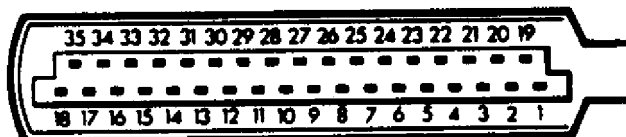
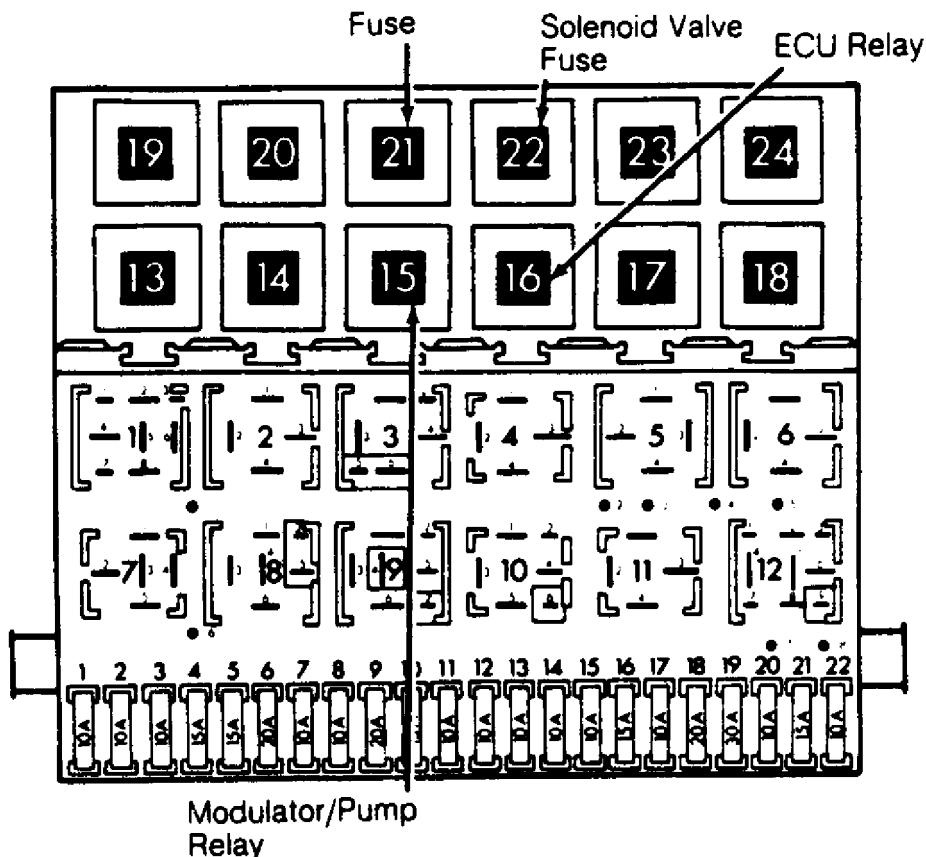
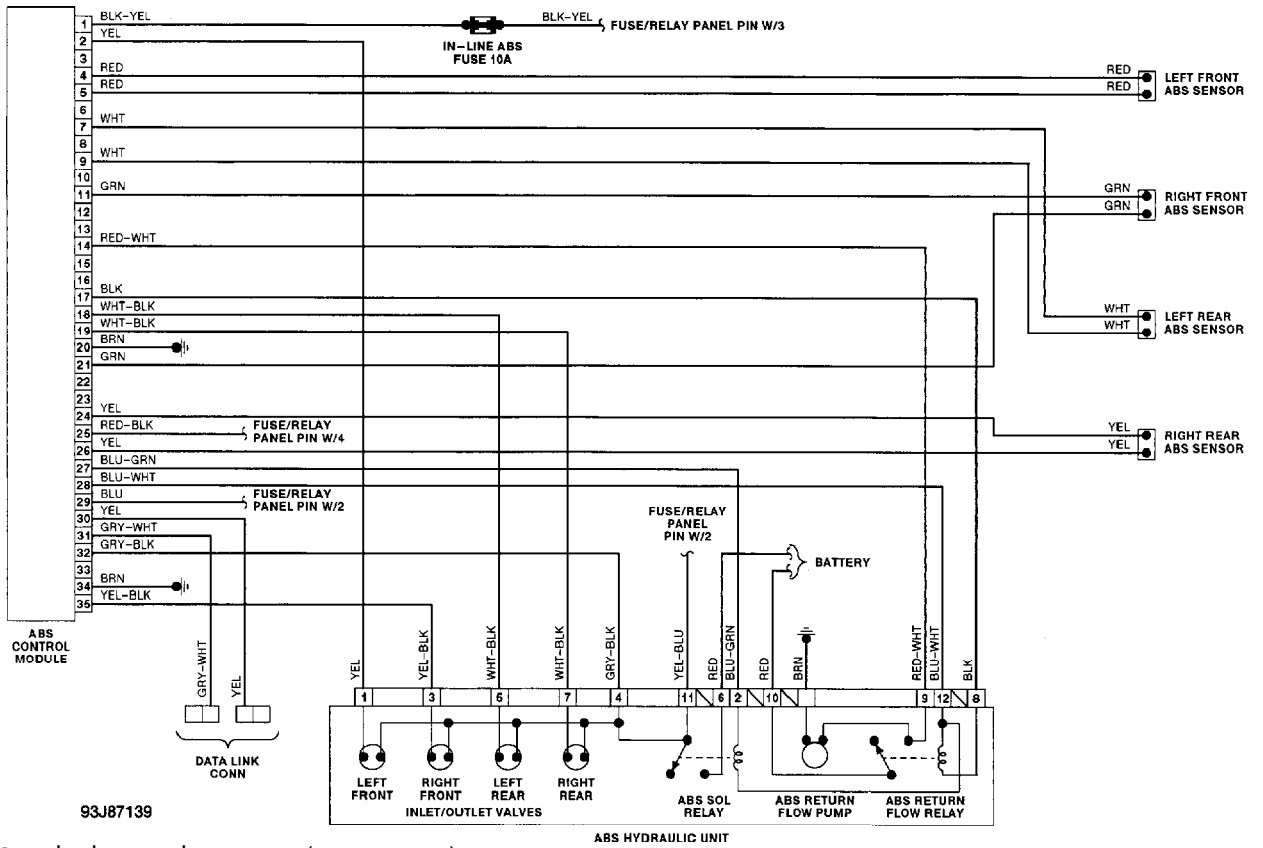

Fig. 2: Identifying ECU Connector Terminals
Fig. 3: Locating Relays
Fig. 4: ABS Wiring Diagram (EuroVan)
Turn ignition off. Unplug ECU connector. Turn ignition on. Using a voltmeter, check voltage between ECU connector terminals No. 1 and 2. See Fig. 2. If voltage is 10 volts or more, go to next test. If voltage is less than 10 volts, check battery, ground, ABS fuse, relay and wiring. Repair as necessary.
Connect a jumper wire between ECU connector terminals No. 2 and 8. See Fig. 2. Turn ignition on. Using a voltmeter, check voltage between ECU connector terminals No. 1 and 3. If voltage is 10 volts or more, go to next test. If voltage is less than 10 volts, check ABS
1) Turn ignition off. Unplug hydraulic modulator/pump connector. Depress brake pedal 25 times. Turn ignition on. Using a voltmeter, measure voltage between ECU connector terminals No. 1 and 32. See Fig. 2. If voltage is 10 volts or more, go to RIGHT REAR WHEEL SPEED SENSOR VOLTAGE TEST under SYSTEM TESTING.
2) If voltage is less than 10 volts, check hydraulic modulator/pump fuse. If fuse is okay, check wiring between ECU connector terminal No. 32 and hydraulic modulator/pump connector terminal No. 1 (large gauge Red/Black wire). See Figs. 2 and 4. If wiring is not okay, repair wiring, and retest. If wiring is okay, replace relay, and retest.
Connect an AC voltmeter between ECU connector terminals No. 4 and 22. See Fig. 2. Rotate right rear wheel at one revolution per second. Measure voltage with wheel rotating. If voltage is 0.075 volt or more, go to next test. If voltage is less than 0.075 volt, check wheel speed sensor and/or toothed ring for damage, wear and proper installation. If damage or wear is found, replace faulty component and retest. If components are not properly installed, reposition and retest. If components are okay, replace wheel speed sensor and retest.
Connect an AC voltmeter between ECU connector terminals No. 6 and 24. See Fig. 2. Rotate left rear wheel at one revolution per second. Measure voltage with wheel rotating. If voltage is 0.075 volt or more, go to next test. If voltage is less than 0.075 volt, check wheel speed sensor and/or toothed ring for damage, wear and proper installation. If damage or wear is found, replace faulty component and retest. If components are not properly installed, reposition and retest. If components are okay, replace wheel speed sensor and retest.
Connect an AC voltmeter between ECU connector terminals No. 7 and 25. See Fig. 2. Rotate right front wheel at one revolution per second. Measure voltage with wheel rotating. If voltage is 0.075 volt or more, go to next test. If voltage is less than 0.075 volt, check wheel speed sensor and/or toothed ring for damage, wear and improper installation. If damage or wear is found, replace faulty component, and retest. If components are improperly installed, reposition component, and retest. If components are okay, replace wheel speed
Connect an AC voltmeter between ECU connector terminals No. 5 and 23. See Fig. 2. Rotate left front wheel at one revolution per second. Measure voltage with wheel rotating. If voltage is 0.075 volt or more, go to next test. If voltage is less than 0.075 volt, check wheel speed sensor and/or toothed ring for damage, wear and proper installation. If damage or wear is found, replace faulty component and retest. If components are not properly installed, reposition and retest. If components are okay, replace wheel speed sensor and retest.
Turn ignition off. Using an ohmmeter, check for continuity between ECU connector terminals No. 1 and 3, and between terminals No. 1 and 20. See Fig. 2. If there is continuity at both test points, go to next test. If there is no continuity at either or both test points, check wiring. If wiring is faulty, repair and retest. If wiring is okay, replace relay and retest.
1) Turn ignition off. Remove jumper wire from previous test. Using an ohmmeter, check for continuity between ECU connector terminals No. 1 and 11. See Fig. 2. If there is continuity, go to step 3).
3) Reconnect jumper wire between ECU connector terminals No. 1 and 11. Check for continuity between ECU connector terminal No. 11 and valve block connector terminal No. 1 (Brown wire). See Figs. 2 and 4. If there is no continuity, repair wiring and retest.
connector terminals No. 9 and 10. See Fig. 2. If there is continuity, switch is okay. If continuity does not exist, check wiring. If wiring is okay, replace switch, and retest.
Turn ignition off. Using an ohmmeter, measure resistance between ECU connector terminals No. 4 and 22. See Fig. 2. If resistance is 800-1400 ohms, go to next test. If resistance is not as specified, check resistance at right rear wheel speed sensor. If resistance is correct, repair wiring and retest. If resistance is not correct, replace wheel speed sensor and retest.
Using an ohmmeter, measure resistance between ECU connector terminals No. 6 and 24. See Fig. 2. If resistance is 800-1400 ohms, go to next test. If resistance is not as specified, check resistance at left rear wheel speed sensor. If resistance is correct, repair wiring and retest. If resistance is not correct, replace wheel speed sensor, and retest.
Using an ohmmeter, measure resistance between ECU connector terminals No. 7 and 25. See Fig. 2. If resistance is 800-1400 ohms, go to next test. If resistance is not as specified, check resistance at right front wheel speed sensor. If resistance is correct, repair wiring and retest. If resistance is not correct, replace wheel speed sensor and retest.
Using an ohmmeter, measure resistance between ECU connector terminals No. 5 and 23. See Fig. 2. If resistance is 800-1400 ohms, go to next test. If resistance is not as specified, check resistance at left front wheel speed sensor. If resistance is correct, repair wiring, and retest. If resistance is not correct, replace wheel speed sensor, and retest.
Using an ohmmeter, measure resistance between ECU connector terminals No. 1 and 4. See Fig. 2. If resistance is 20,000 ohms or more, go to next test. If resistance is less than 20,000 ohms, check shielding wire for damage. Replace harness if damage is found and retest.
Using an ohmmeter, measure resistance between ECU connector terminals No. 1 and 6. See Fig. 2. If resistance is 20,000 ohms or more, go to next test. If resistance is less than 20,000 ohms, check shielding wire for damage. Replace harness if damage is found and retest.
terminals No. 1 and 7. See Fig. 2. If resistance is 20,000 ohms or more, go to next test. If resistance is less than 20,000 ohms, check shielding wire for damage. Replace harness if damaged, and retest.
Using an ohmmeter, measure resistance between ECU connector terminals No. 1 and 5. See Fig. 2. If resistance is 20,000 ohms or more, go to next test. If resistance is less than 20,000 ohms, check shielding wire for damage. Replace harness if damaged, and retest.
Using an ohmmeter, measure resistance between ECU connector terminals No. 1 and 8. See Fig. 2. If resistance is 50-100 ohms, go to next test. If resistance is not as specified, check wiring. If wiring is faulty, repair and retest. If wiring is okay, replace relay and retest. See Fig. 3.
Using an ohmmeter, measure resistance between ECU connector terminals No. 11 and 17. See Fig. 2. If resistance is 5-7 ohms, go to next test. If resistance is not 5-7 ohms, measure between hydraulic modulator block terminals No. 1 (Brown wire) and No. 5 (Gray wire). See Fig. 4. If resistance is 5-7 ohms, check wiring between hydraulic modulator and ECU for open circuit. If resistance is not 5-7 ohms, replace hydraulic modulator.
Using an ohmmeter, measure resistance between ECU connector terminals No. 11 and 15. See Fig. 2. If resistance is 5-7 ohms, go to next test. If resistance is not 5-7 ohms, measure between hydraulic modulator terminals No. 1 (Brown wire) and No. 2 (Yellow wire). See Fig. 4. If resistance is 5-7 ohms, check wiring between hydraulic modulator and ECU for open circuit. If resistance is not 5-7 ohms, replace hydraulic modulator.
Using an ohmmeter, measure resistance between ECU connector terminals No. 11 and 35. See Fig. 2. If resistance is 5-7 ohms, go to next test. If resistance is not 5-7 ohms, measure between hydraulic modulator terminals No. 1 (Brown wire) and No. 7 (Blue or Black/Green wire). See Fig. 4. If resistance is 5-7 ohms, check wiring between valve block and ECU for open circuit. If resistance is not 5-7 ohms, replace hydraulic modulator.
Using an ohmmeter, measure resistance between ECU connector terminals No. 11 and 33. See Fig. 2. If resistance is 3-5 ohms, go to next test. If resistance is not 3-5 ohms, measure between valve block terminals No. 1 (Brown wire) and No. 4 (White wire). See Fig. 4. If resistance is 3-5 ohms, check wiring between hydraulic modulator and ECU for open circuit. If resistance is not 3-5 ohms, replace hydraulic modulator.
Using an ohmmeter, measure resistance between ECU connector terminals No. 11 and 34. See Fig. 2. If resistance is 3-5 ohms, go to next test. If resistance is not 3-5 ohms, measure between hydraulic modulator terminals No. 1 (Brown wire) and No. 3 (Green wire). See Fig. 4. If resistance is 3-5 ohms, check wiring between hydraulic modulator and ECU for open circuit. If resistance is not 3-5 ohms, replace hydraulic modulator.
Using an ohmmeter, measure resistance between ECU connector terminals No. 11 and 16. See Fig. 2. If resistance is 3-5 ohms, go to next test. If resistance is not 3-5 ohms, measure between hydraulic modulator terminals No. 1 (Brown wire) and No. 6 (Black/Blue wire). See Fig. 4. If resistance is 3-5 ohms, check wiring between hydraulic modulator and ECU for open circuit. If resistance is not 3-5 ohms, replace hydraulic modulator.